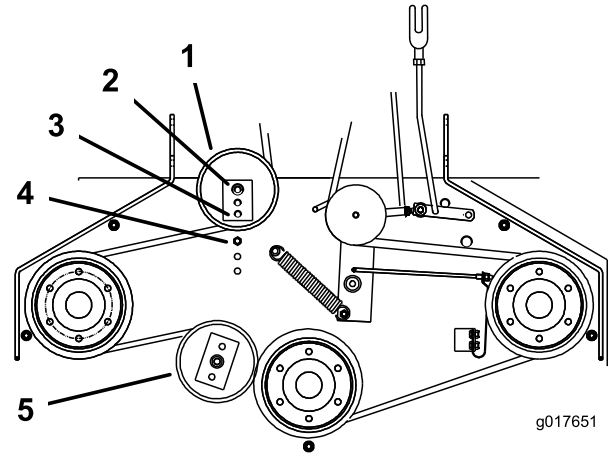

Figure 48
positioned to the middle or front hole (Figure 48). Use the hole that will give the correct adjustment.
7. When you move the idler pulley, you must move the belt guide. Move the belt guide to the front position (Figure 48).